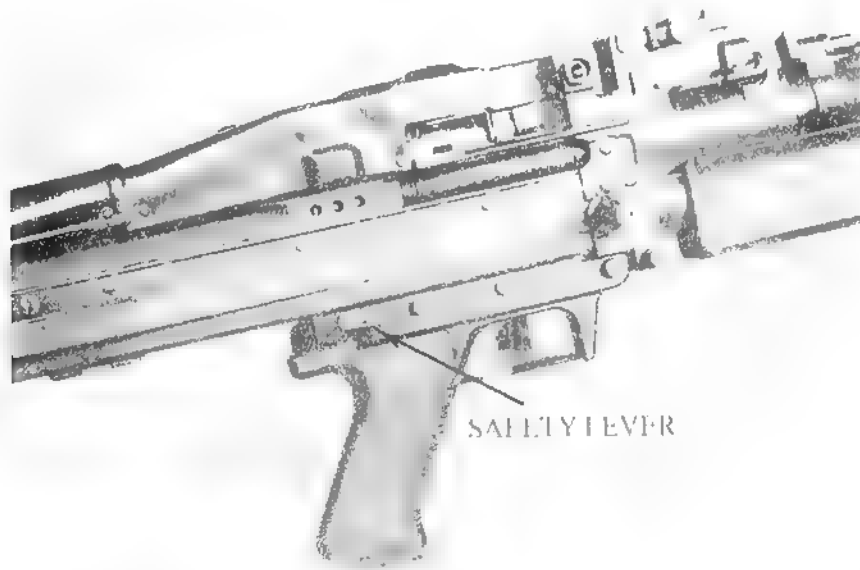

Figure 1-11. — Safety Lever (Right).
**1901. SAFETY SWITCH.** The safety on the M60E3 can be manipulated from either side of the weapon (Figure 1-11). This change was made to make it easier to manipulate the safety and ensure the weapon is on S (safe). The position of S (safe) and F (fire) remain the same.